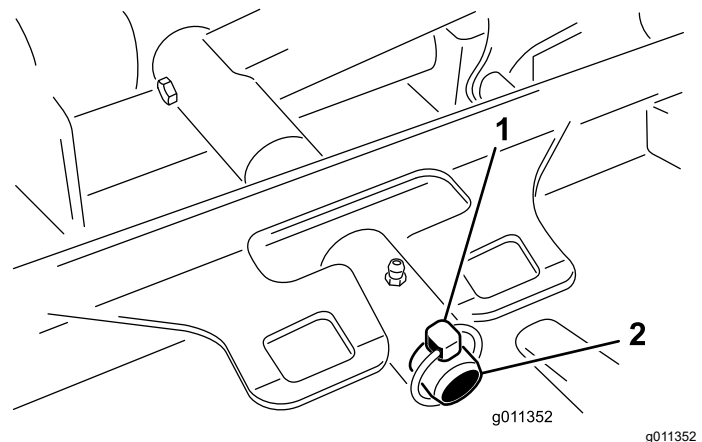

Figure 87
3. Remove the lynch pin (for Groundsmaster 4500 machines) or retaining nut (for Groundsmaster 4700 machines) securing the cutting unit-carrier frame to the lift-arm pivot pin (Figure 87).
2. Slide the cutting unit-carrier frame onto the lift-arm-pivot pin (Figure 87). Secure the cutting unit to the pin with the lynch pin (for Groundsmaster 4500 machines) or retaining nut (for Groundsmaster 4700 machines).